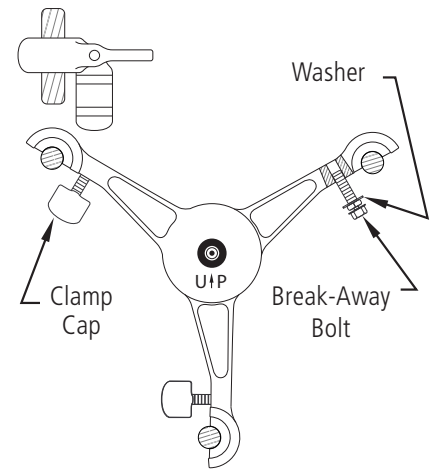

Figure 1
2. Loosen all 5/8"-11 spacer clamp break-away bolts to permit the clamp caps (Figure 1) to be rotated so that they will clear the conductor during installation.